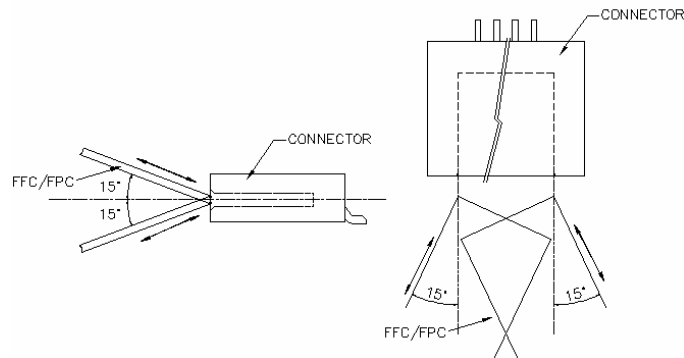

Figure 2.
- FPC/FFC to be insertion and withdrawal at an angle of about 15°, and the FPC/FFC should be inserted firmly all the way to the back. (see figure 2).